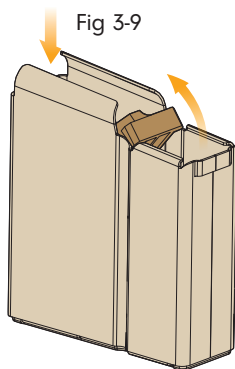

Fig 3-9
- Press down and push forward on the rear of the magazine platform. The front lugs on the platform should clear the body (see Fig 3-9).